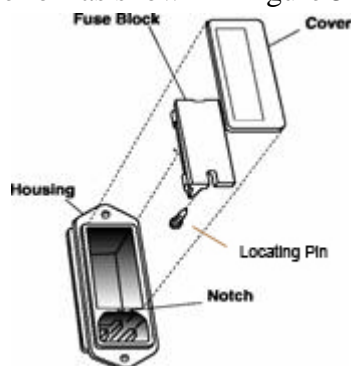

Figure 5-2: Removing Fuse Block from Housing
2. Place small screwdriver in the notch of the fuse block, and pry the cover off as shown in Figure 5-2.
6. Reassemble the housing as shown in Figure 5-2.